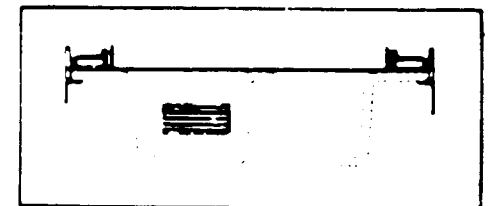

FIGURE 4.10 INSTALLATION OF MAIN DECK AND HOOD SEAT GASKET (GROUP 1)
- INSTALL THE MAIN DECK AND HOOD SEAT GASKET (GROUP 1)** into the Base Assembly as shown in Figure 4.10. Rotate the Main Deck Retainer Knob to secure the deck.